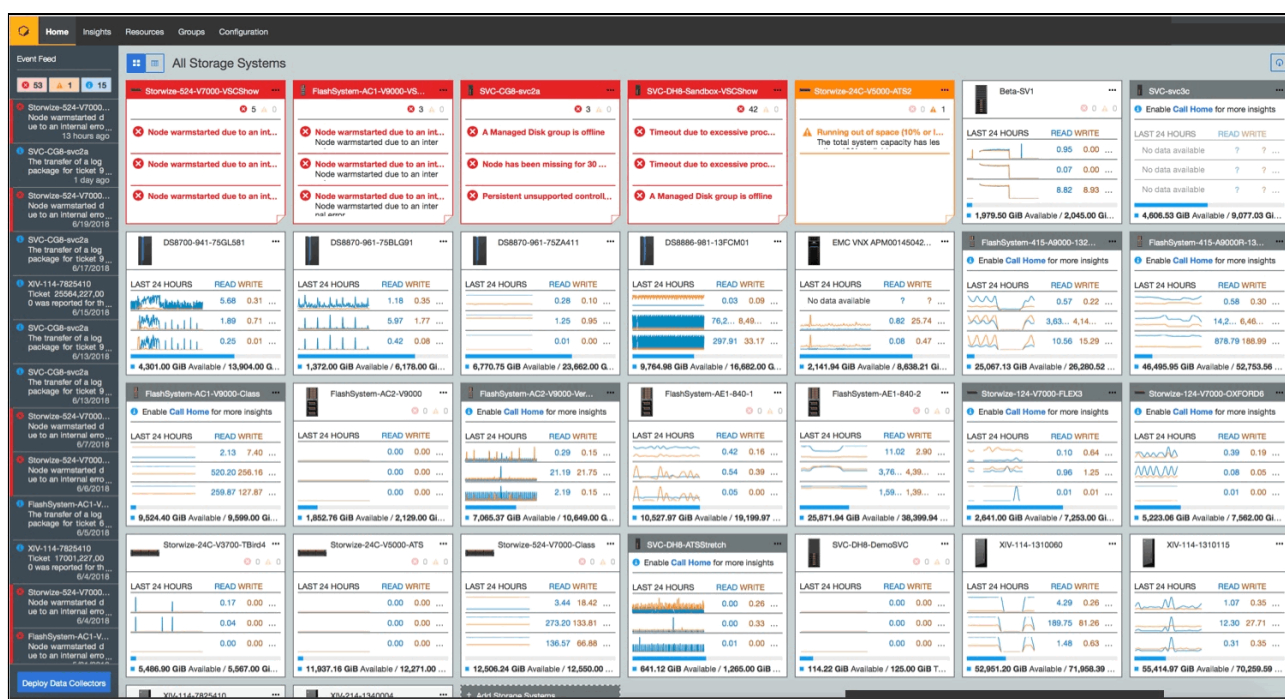

Figure 11-10 Storage Insights main dashboard
Figure 11-10 shows a view of the Storage Insights (SI) main dashboard and the systems that it is monitoring.